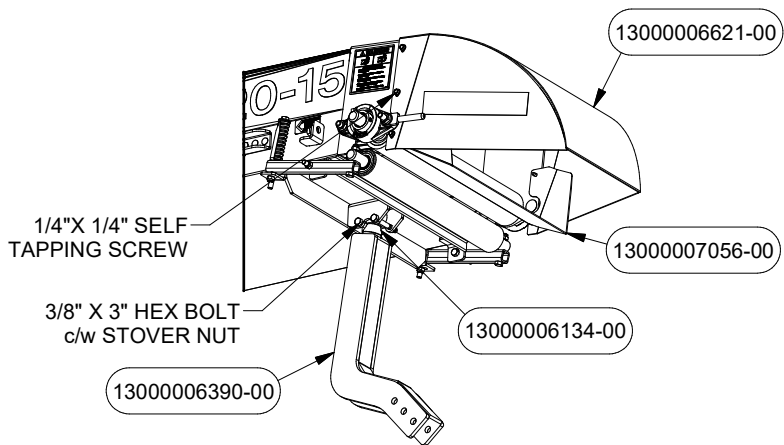

FIGURE 11
21. Attach the Discharge PN# 6621 and the Deflector PN# 7056 to the SW Body using Self Tapping Screws from Bolt Bag PN# 6782 (see Figure 11).
22. Attach the Gooseneck PN# 6390 to the Ball Hitch PN# 6134 (see Figure 11).
23. Attach the Ball Hitch PN# 6134 in to the SW Body using Hex Bolt c/w Stover Nut. Fasteners can be found in Bolt Bag PN# 6783 (see Figure 11).